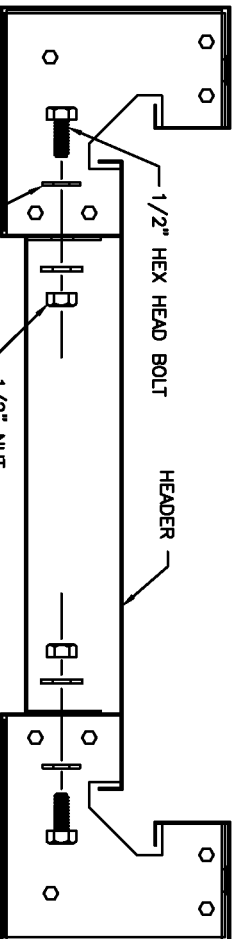

FIGURE 8
BOLT HEADER TO PIERS USING (3) 1/2x 1 1/4 HEX HEAD BOLTS ON EACH END OF HEADER. USE A FLAT WASHER ON BOTH PIER AND HEADER SIDES. ALIGN TOP OF HEADER WITH TOP OF PIERS PRIOR TO FINAL TIGHTENING OF BOLTS (SEE FIG. 8).